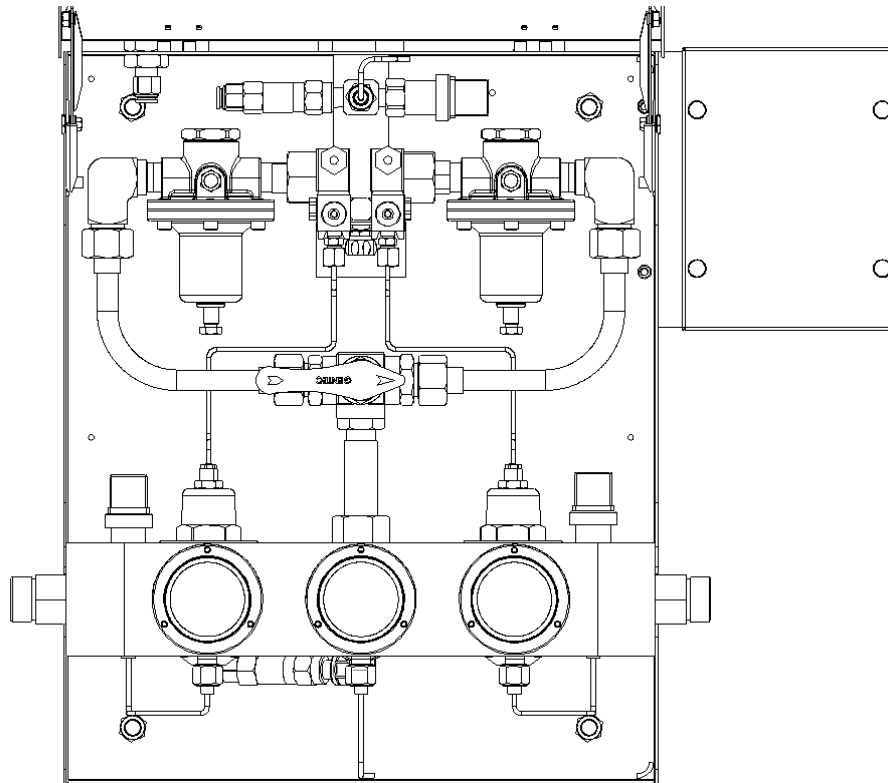

Figure 15
4. Turn Tee Ball Valve handle indicator towards the right as shown in Figure 15.